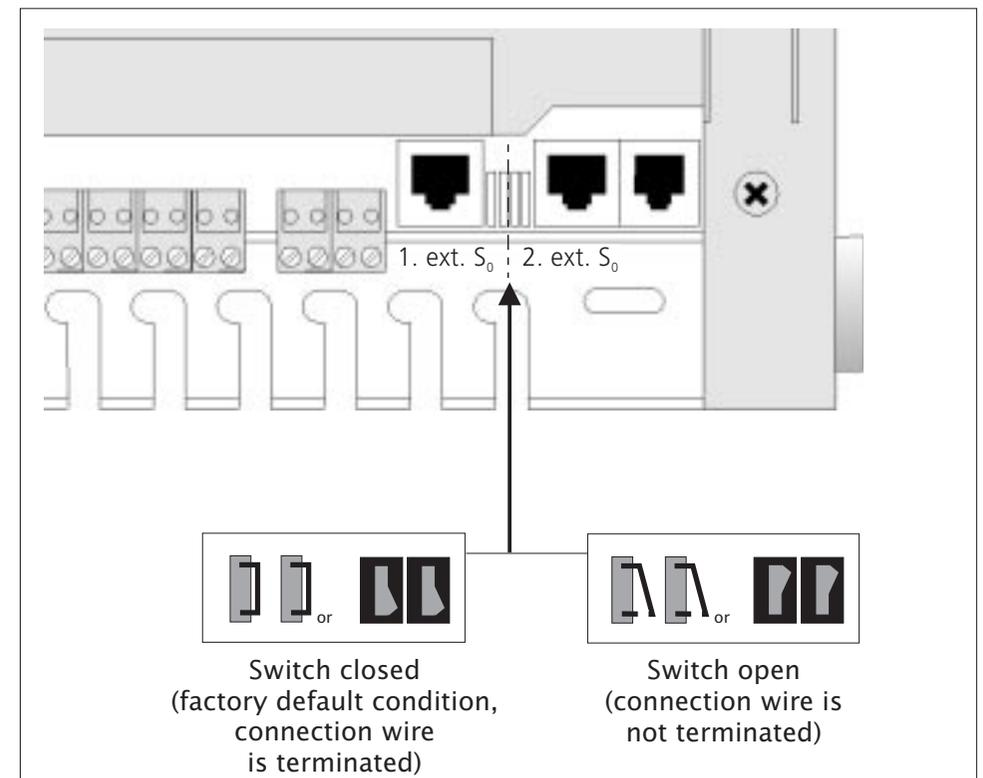
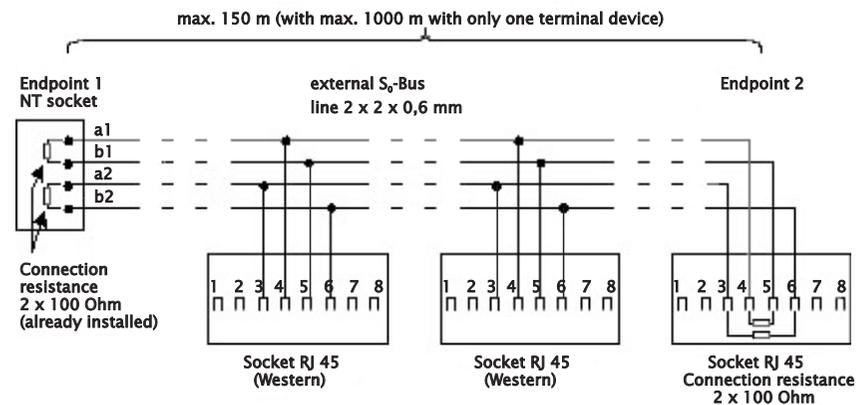

Fig. 5-5: Terminating resistors for the connection wires
Fig. 5-6: ISDN line (S_0 bus) with terminating resistors
The four small switches between the sockets for the external S₀ ports (see Fig. 5-5) connect the terminating resistors for the connection wires. The two left-hand switches are assigned to the first external S₀ port, the two on the right to the second. The two switches of a port must be either both open or both closed at the same time. When the unit is delivered they are closed, because the telephone unit has been set up for a single connection point.
Fig. 5-6 shows the basic layout of an ISDN line for the multipoint interface. The two pairs of leads (each with 100 Ohm) must be connected to the connection endpoints. These resistors are already built into the Network terminator (NT) (endpoint 1).
- You can install a junction box at the end of the line with integrated terminating resistors. The switches for the terminating resistors of the corresponding external connection (see Fig. 5-5) must be open in this case.
- You can install two 100-Ohm resistors into the last junction box as shown in Fig. 5-6. The switches for the terminating resistors of the corresponding external connection (see Fig. 5-5) must also be open.
- You can connect the unit at the last junction box of the ISDN line. In this case, the switches for the terminating resistors of the corresponding external connection (see Fig. 5-5) must be closed.